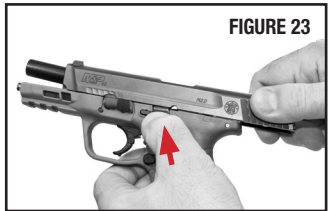

FIGURE 23
- Press up on the slide stop and let the slide move forward against the slide stop to lock the slide open (FIGURE 23).